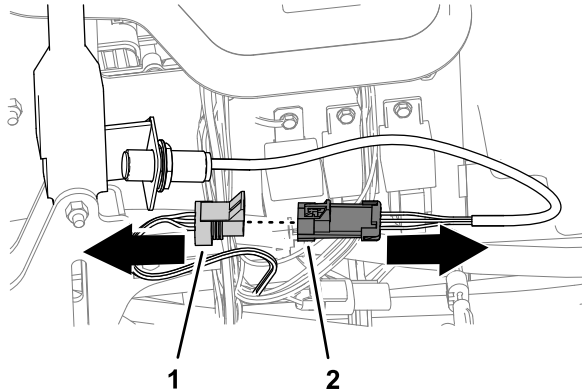

Figure 14
1. Disconnect the 3-socket connector of the parking-brake switch from the 3-pin connector of the machine wire harness (Figure 14).